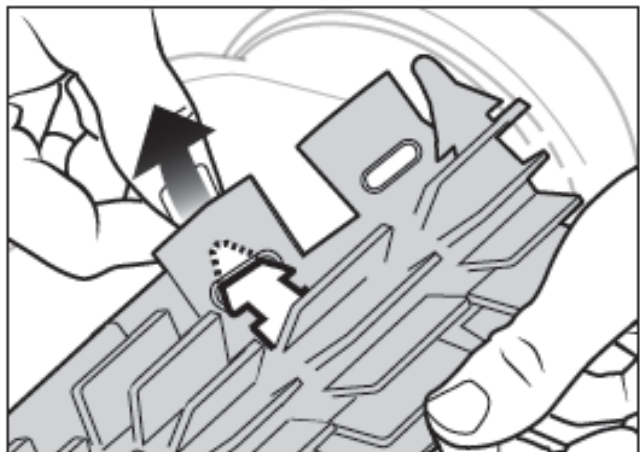

Figure 18. Pull Tabs Through Each Slot
3. Thread each tab into the slot provided and gently feed it through until the heel comes out at the other side of the slot. (FIGURE 18)